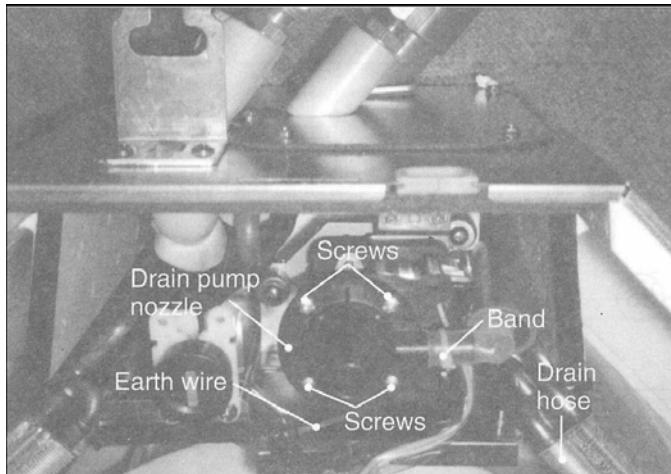

Fig. 16
3. Remove earth wire by removing the screws (Fig. 16).
4. Cut the band (Fig. 16).
5. Remove the drain pump nozzle by removing 4 screws on top of it (Fig. 16).
7. Remove 4 screws to take out the drain pump motor (Fig. 16).